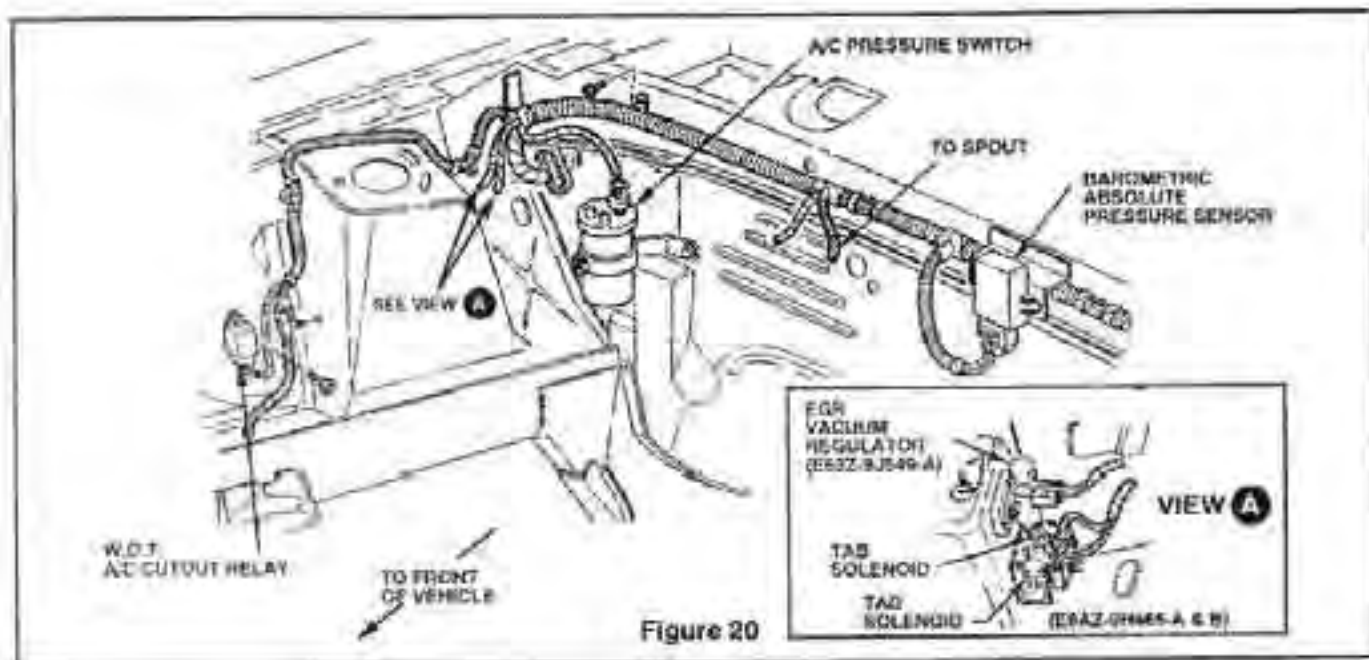

Figure 20
- 9.13 Connect all engine compartment mounted sensors. Attach and connect coil (E73Z-12029-A or equivalent). (See Figure 20, page 15 and Figure 2, page 7)